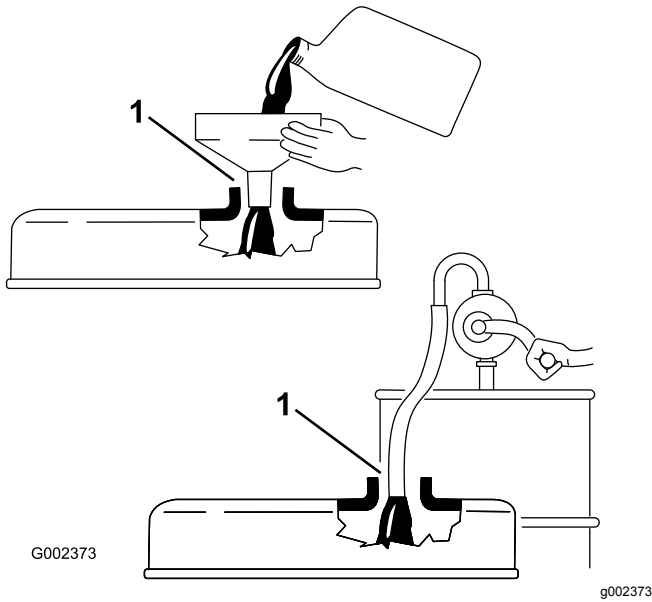

Figure 24
**Important:** Make sure that the dipstick is removed while filling the engine with oil. When adding engine oil or filling oil, there *must be* clearance between the oil fill device and the oil fill hole in the valve cover as shown in Figure 24. This clearance is necessary to permit venting when filling,